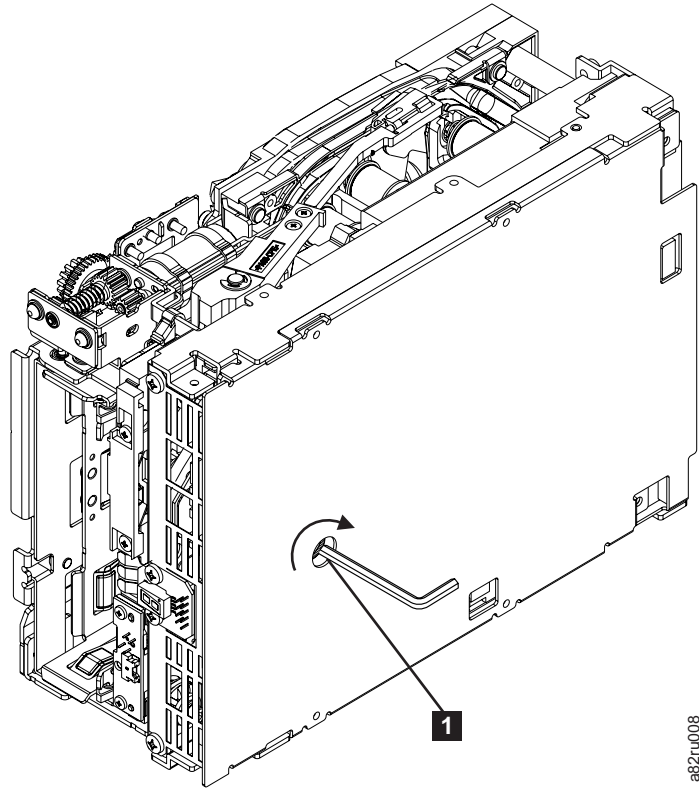

Figure 8-130. Using hex wrench to rewind tape into cartridge
2. From the bottom of the drive, locate the access hole (**1** in Figure 8-130).
Note: Be sure to keep tension on the tape as the LBA is drawn into the cartridge by using a hex wrench as shown in Figure 8-130 on page 8-123.